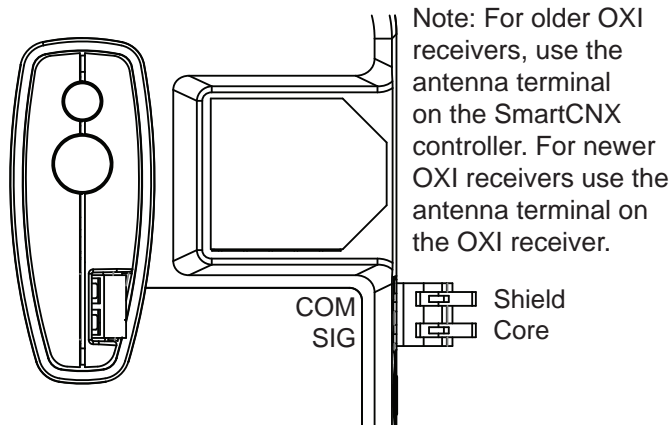

Figure 71. OXI Antenna Terminal
3. Install a whip or coaxial antenna into the OXI antenna terminal for better range (Figure 71). Mount any external antenna onto the top of a fixed fence post near the operator.